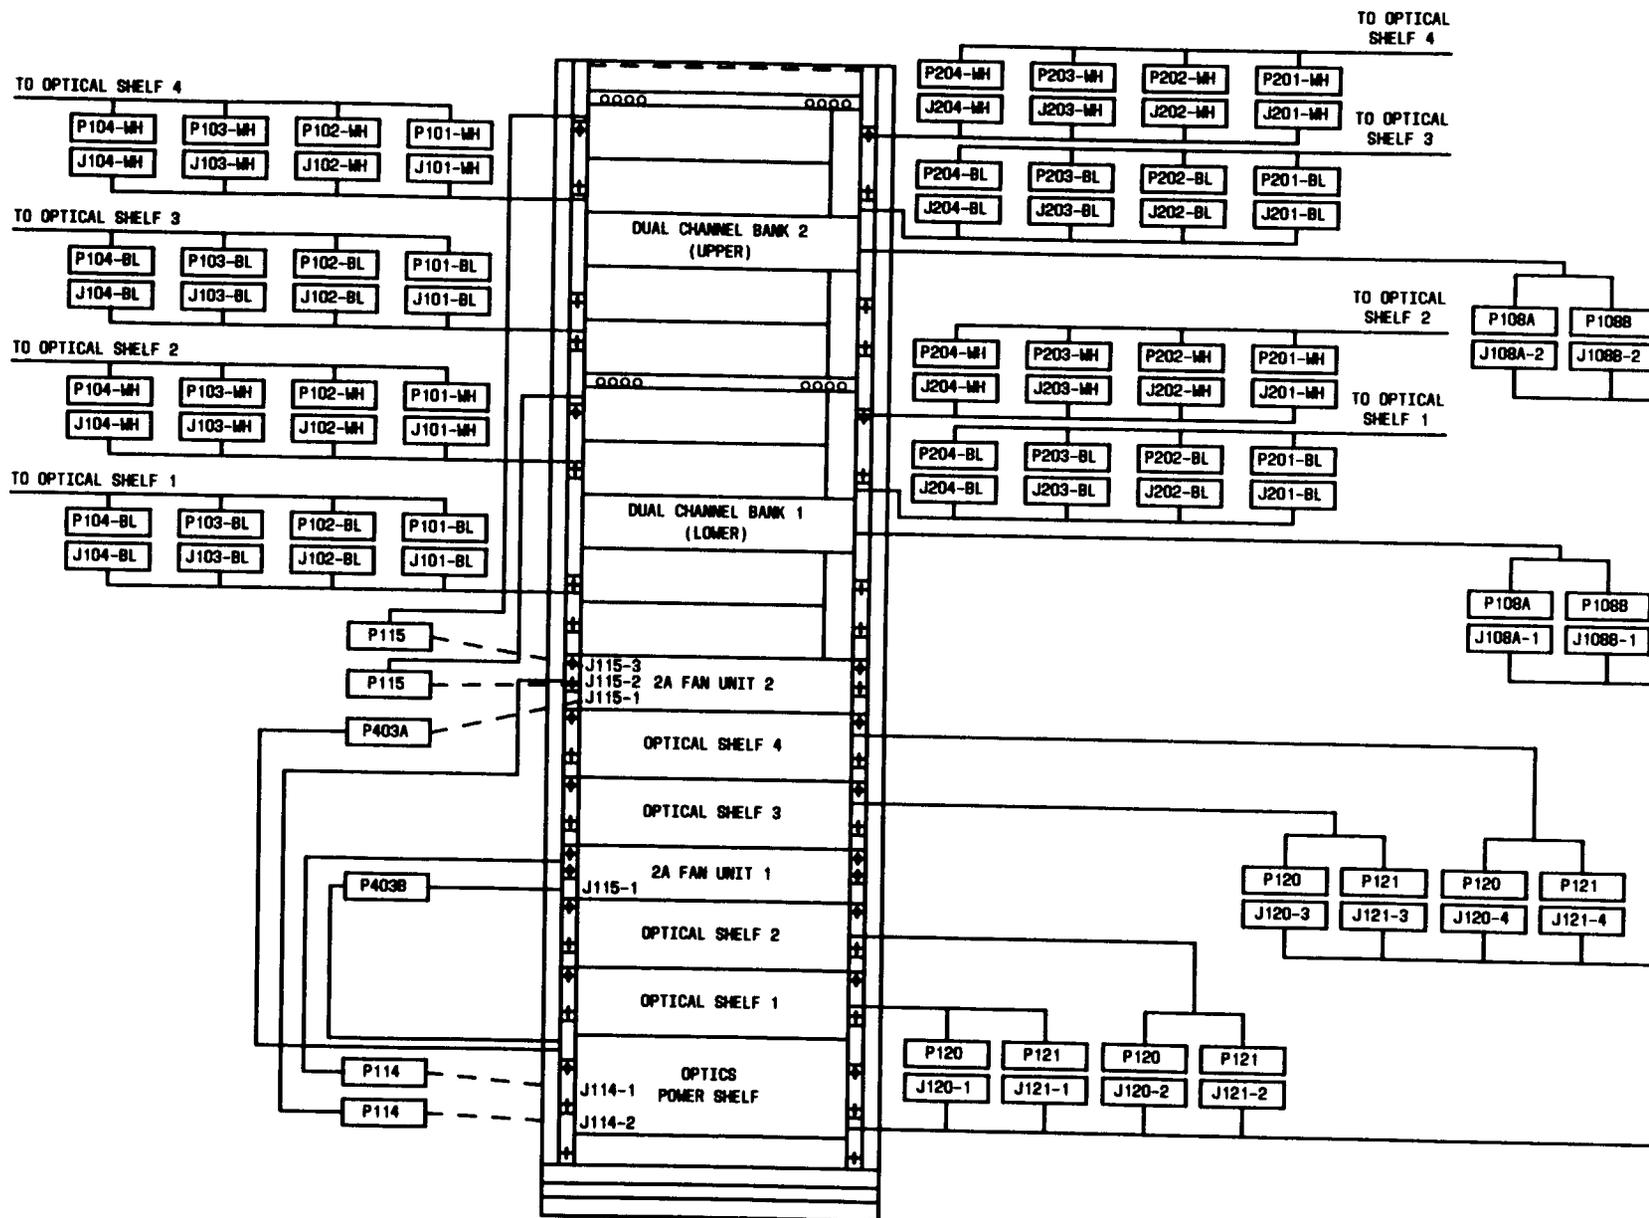
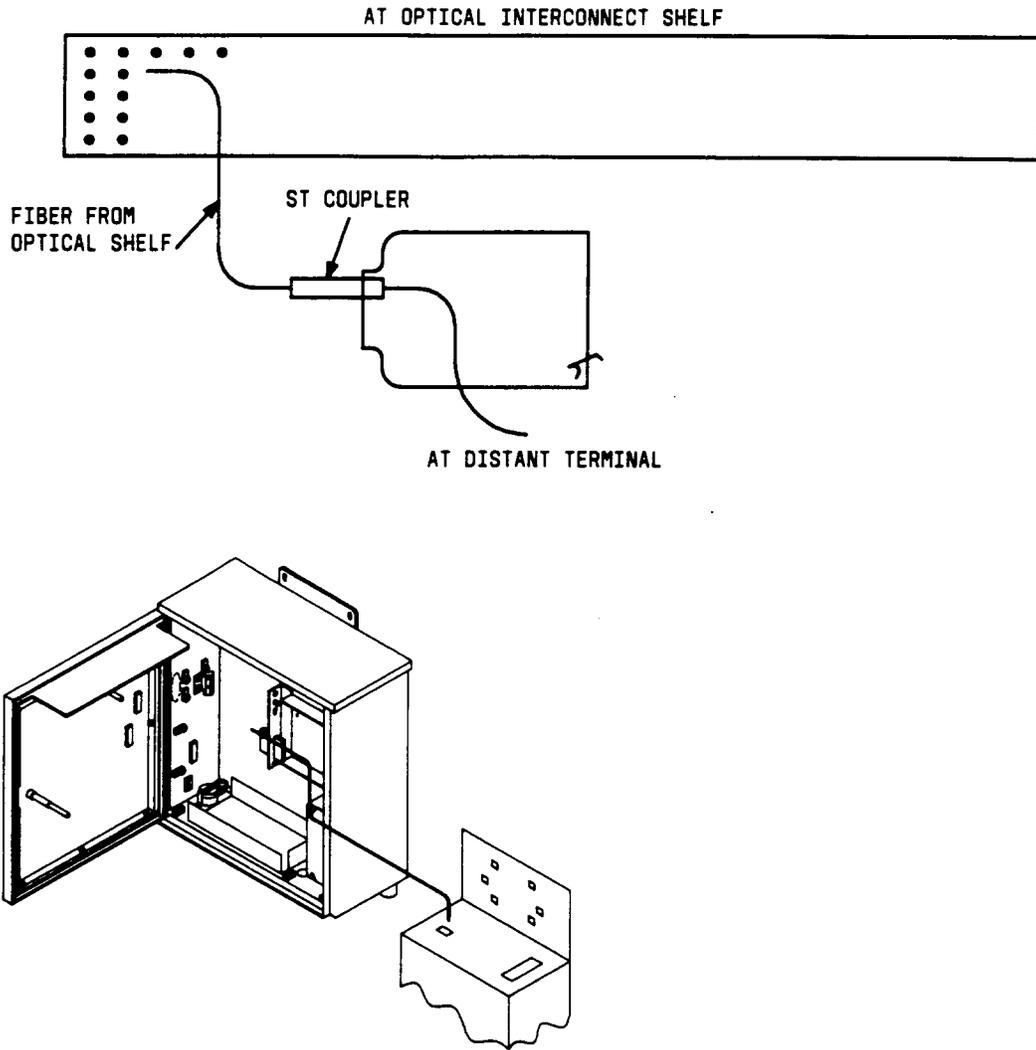

Fig. 2—Fiber-To-The-Home 7-Foot Bay Cabling Connections
Fig. 7—Fiber Connections With J99407TA Analyzer
3. See TABLE C and FIG. 2 for bay connections from the Power Shelf Assembly.
4. See Table D and FIG. 2 for intershelf cabling arrangements.
5. Figure 1 shows the Fiber-to-the-Home 7-foot frame equipment bay arrangement. Note that the connections between the dual channel bank 1 and optical shelves 1 and 2 are not shown, but are connected in a similar arrangement as the connections for the dual channel bank 2. Figure 2 shows all the required connections for the 7-foot Fiber-to-the-Home equipment frame. Each optical shelf serves one of the RT systems in the dual RT channel bank assembly.
6. The optical shelf provides slots for 48 AYB1(B) optical units, one for each channel unit slot in the RT. Each RT digroup has 12 channel unit slots and each channel unit slot is labeled with the channel count served by the slot (e.g., 43/44). To find the AYB1(B) slot associated with a channel unit slot, simply find the AYB1(B) slot with the same channel count number. The AUA401 channel unit occupies two channel unit slots in the RT, but requires only one AYB1(B) optical unit to be installed in the optical shelf. The AYB1(B) position corresponds with the RT channel unit slot of the first two channels. To find the AYB1(B) slot associated with an AUA401 channel unit, use the same method as above with the lower channel count slot (e.g., an AUA401 occupying RT slots 43/44 and 45/46 is AYB1(B) slot 43/44; AYB1(B) slot 45/46 is not used).
9. When the J99407TA Analyzer is connected to the optical cable (FIG. 7), the *ST*-type connectors should be cleaned using reagent grade isopropyl alcohol and blown dry with canned air. The same should be done when connections to the distribution cables are made. See *"Instruction Manual" "1032A TOOL KIT With D-181610 KIT" "ST CONNECTORS" "SINGLE MODE LIGHTGUIDE CABLE"* for procedures to make cable splice and clean *ST* connectors.
10. The Analyzer has an optical cable attached to a blank card that is used to replace the AYB1(B) in the DT cabinet. This connection can only be used at the DT cabinet. When the Analyzer is used at the RT location, an *ST* coupler is connected to the Analyzer cable end *ST* connector. Then the optical cable from the RT optical shelf AYB1(B) circuit pack can be coupled at the fiber interconnect to the Analyzer.